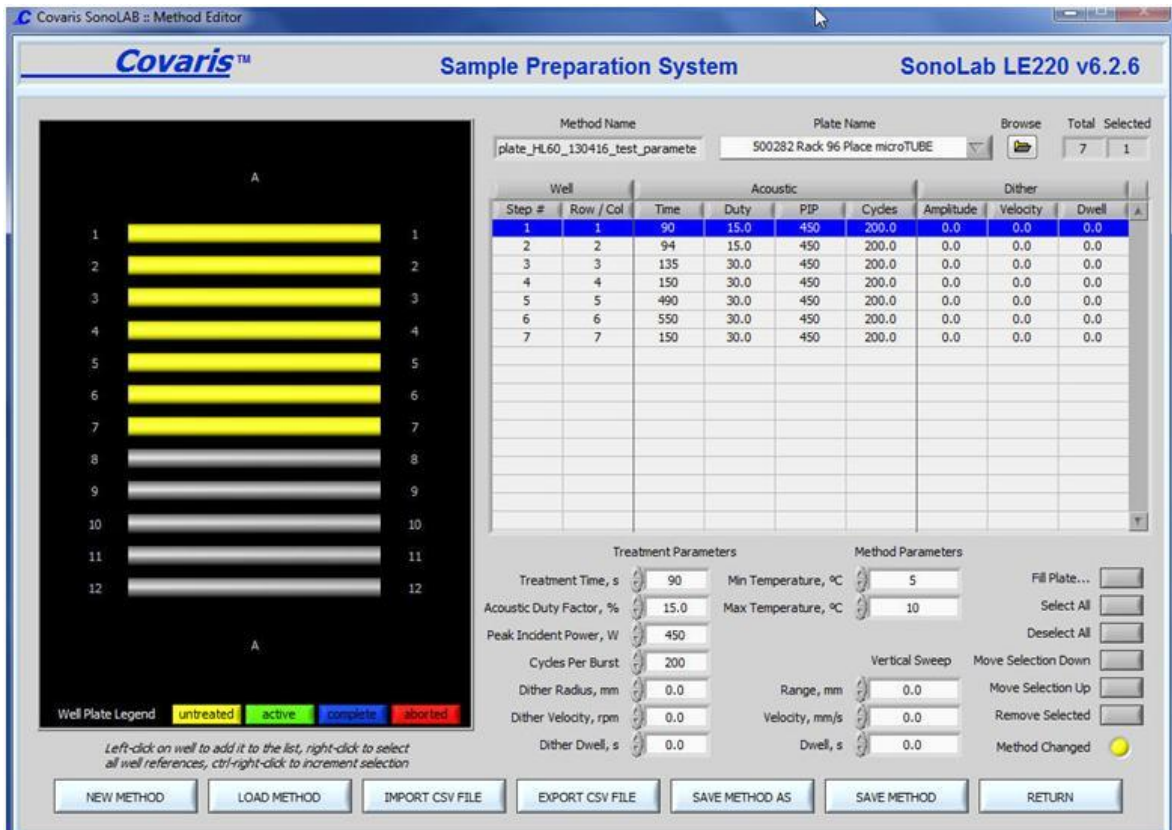

Figure 11: Method Editor showing different treatment parameters for the specified Method Name
5. In the following example, 7 columns (shown sideways as horizontal bars) of samples receive different Treatment times (sec). Column 1 and 2 receive a lower Duty (15%). See Figure 11 below.